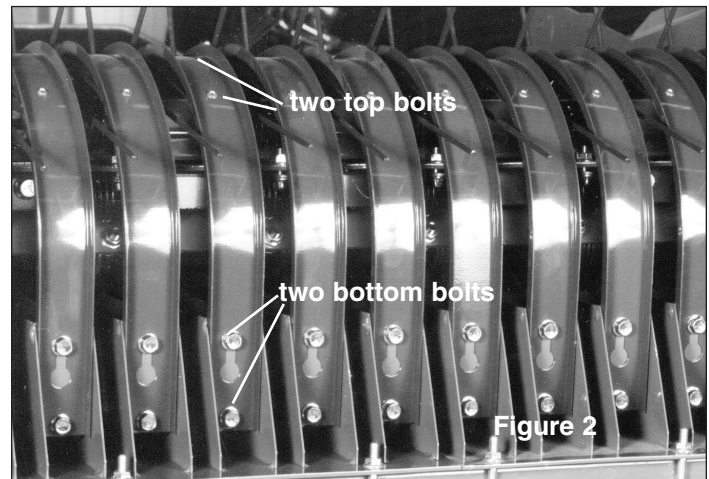

Figure 2
1. Ensure that pickup is blocked securely. Loosen the bolts, holding the wrapper(s) on pickup. (see fig. 2) Slide wrapper forward, and remove the wrapper from the bolts.